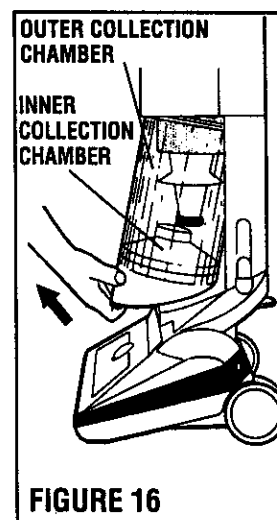

FIGURE 16
- To remove the Collection Bin from the base of the machine, simply insert your fingers under the Collection Bin Catch, lift up and out, and pull away. (Figure 16)
- Empty the collected dirt into a trash can. Make sure to empty the dirt from both the Outer and Inner Collection Chambers. (Figure 16)